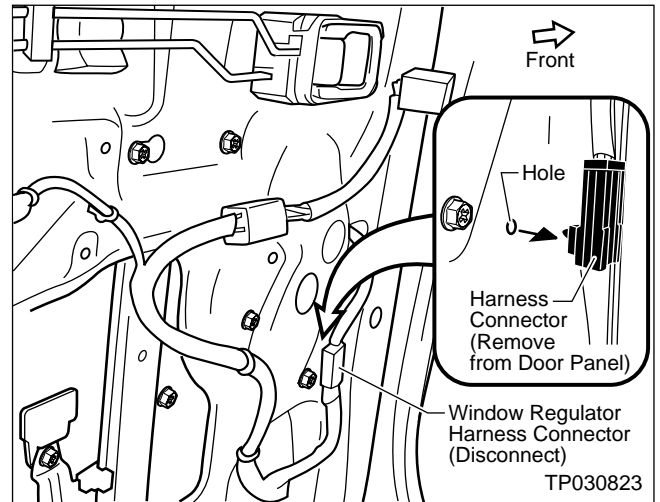

Figure 46
11. Disconnect the Window Regulator Harness Connector (see Figure 46). Then, carefully remove the connector from the door (see Figure 46).